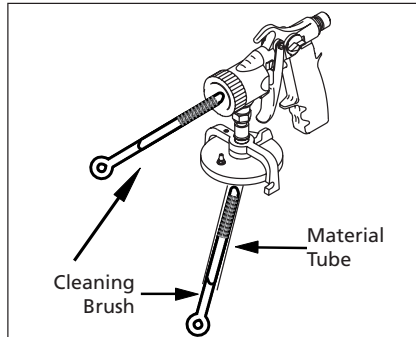

Figure 17 - Cleaning The Material Tube
- Use the brush (saturated with solvent) between flushes to clean the material tube and the nozzle (See Figure 17).